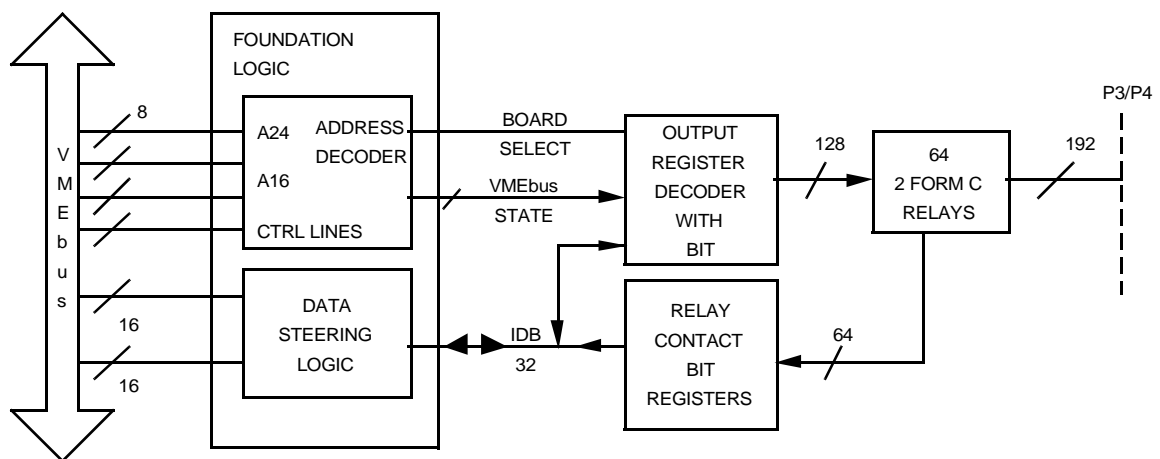

Figure 1-1 VMIVME-2210 Block Diagram
- Figure 1-1 VMIVME-2210 Block Diagram 15
A block diagram of the board is shown in Figure 1-1 below. The VMIVME-2210 has three basic sections, the foundation logic, the output control logic, and the relays. The foundation logic contains the board address decoder and the data steering logic. The output control logic decodes the on-board registers and places the data in the appropriate register or activates the proper register for read accesses. The relays simply place their contacts on the output connectors that will go to the external circuits being controlled.